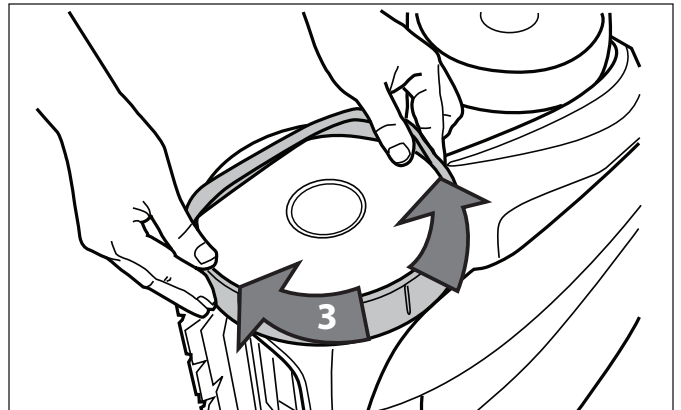

Figure 36. Work the Tire On Around the Wheel
5. Work the tire onto the wheel and verify the rib of the tire is positioned properly within the groove of the wheel. Refer to Figure 36.